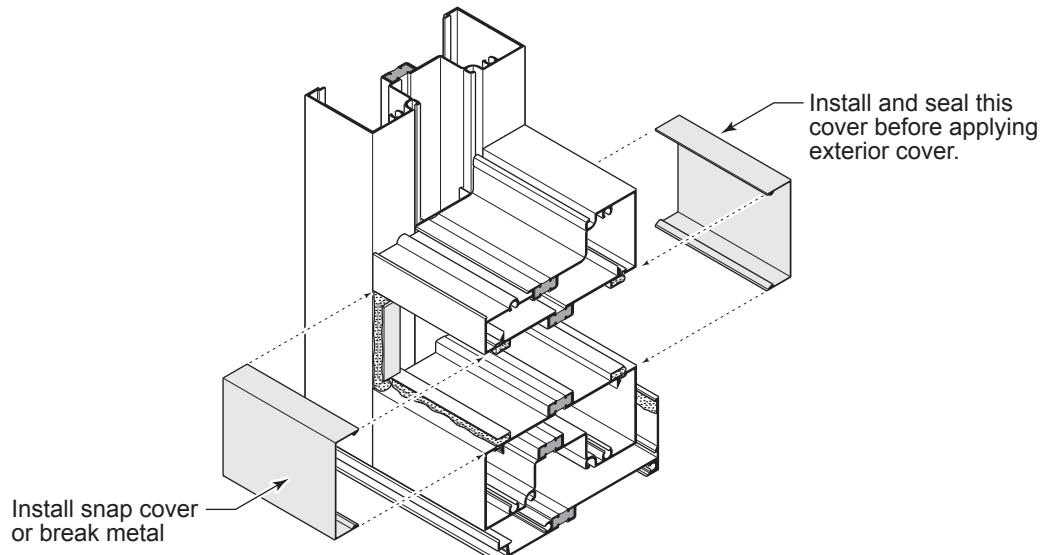

Fig. 33.1
- I. Attach a snap cover or brake metal to the inside surface of the sidelite base. SEE Fig. 33.1.
- K. Attach a snap cover or brake metal to the exterior. SEE Fig. 33.1.